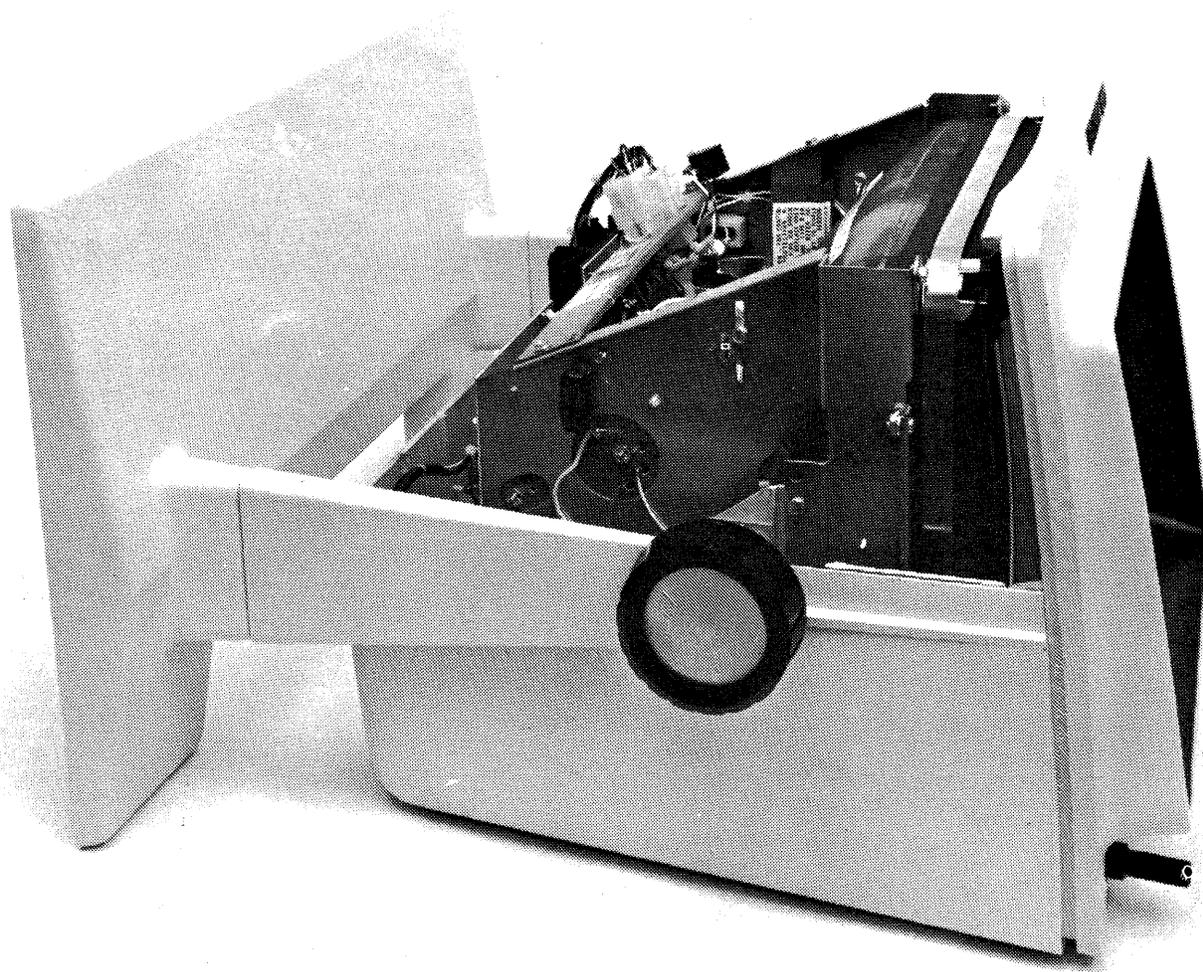

FIGURE 4-3. ADJUSTMENT KNOB AND STAND REMOVAL POSITION
7. Position the monitor and monitor stand as shown in Figure 4-3.